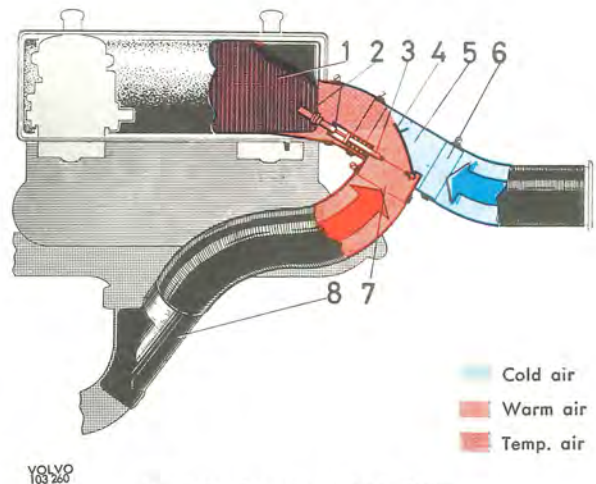

Fig. 2-77. Constant air temp. device
The engine is fitted with a **constant air temp. device**, see Fig. 2-77. (Not, however, on vehicles with right-hand drive.) This device consists of a flap housing (5), a hose (6) for cold air and a heat-resistant hose (7) for warm air as well as a heater plate (8), which is secured to the exhaust pipe. The thermostat (2), fitted in the flap housing, is inserted in the air cleaner housing and regulates the flap (4) by means of the flap control (3). The warm air taken at the exhaust pipe and the cold air taken at the front of the vehicle are regulated by the flap, mixed. The temperature of the mixture then influences the thermostat. In this way, the air supplied to the carburetors is maintained at a constant temperature ($30 \pm 5^\circ \text{C} = 87 \pm 42^\circ \text{F}$). This arrangement eliminates the occurrence of ice forming in the carburetors. Thanks to this system in conjunction with the temperature compensator, the vehicle can be driven more or less irrespective of the temperature of the atmosphere.